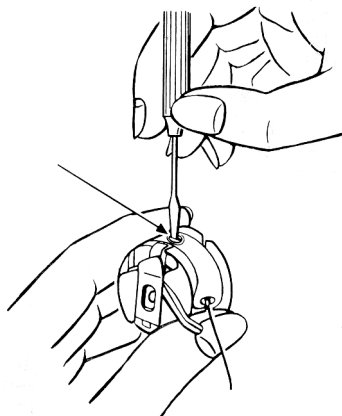

Fig. 17
- Loosen the screw slightly and then turn it again, tightening the screw until you feel resistance when pulling the thread (fig. 17).